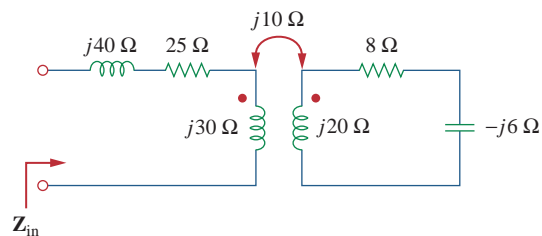

Figure 13.99
- 13.30** (a) Find the input impedance of the circuit in Fig. 13.99 using the concept of reflected impedance.